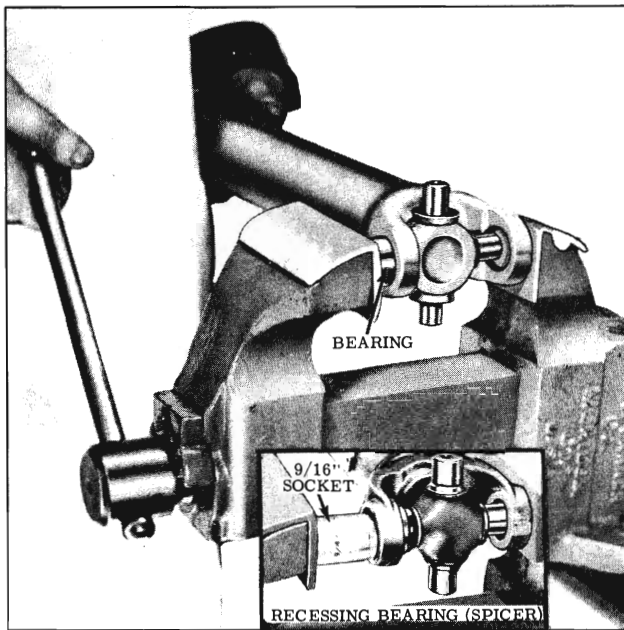

Fig. 6-7 Installing Bearings
5. Press a bearing into one side of yoke until retaining ring can be installed. (Fig. 6-7)
NOTE: On Spicer units the bearing must be recessed into the yoke so that the retaining ring can be installed. The bearing can be recessed with a 9/16" socket and vise. (Inset, Fig. 6-7)